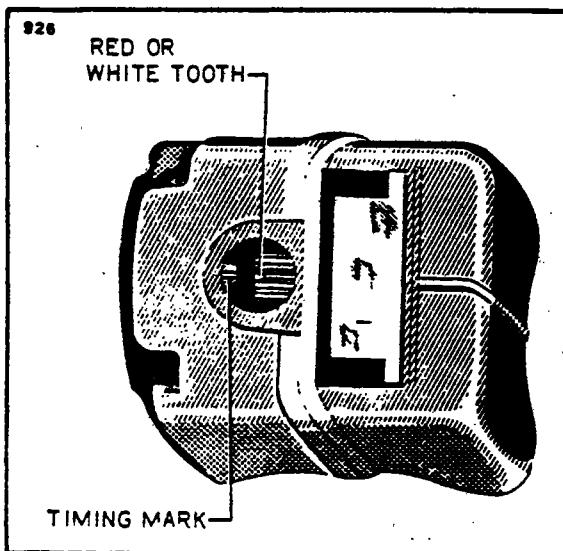
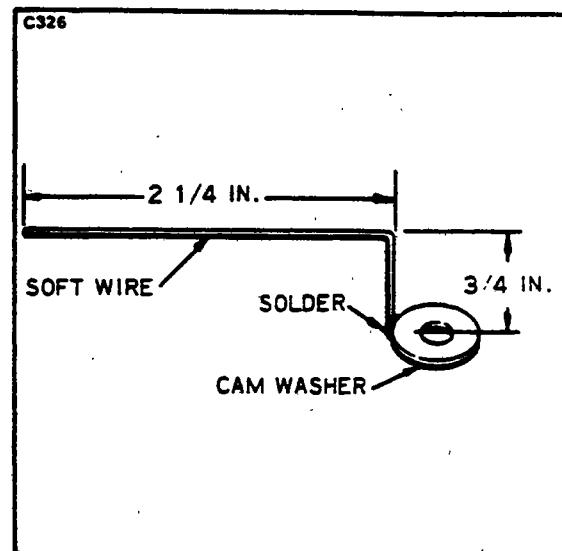

Figure 8-16. Magneto Timing Marks
Figure 8-17. Timing Pointer
c. With timing plate and pointer attached (Refer to Figure 8-17.) and pointer set at zero, rotate coupling from neutral in a left hand direction 10 degrees. Appearing through timing hole, ascertain if the white or red tooth aligns with the white line of the distributor block. (Refer to Figure 8-16.) Alignment may not vary over \pm 4 degrees.
A pointer may be formed as shown in Figure 8-17.